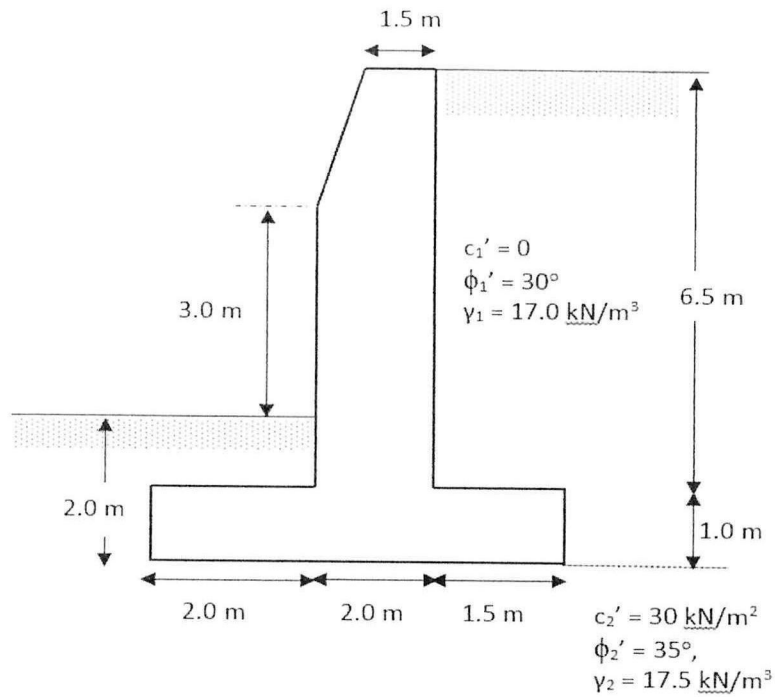

FIGURE Q5(c): Retaining wall
- (c) A retaining wall with a sloping backfill as shown in **Figure Q5(c)**. The retaining wall needs to be designed accordingly to avoid failure.